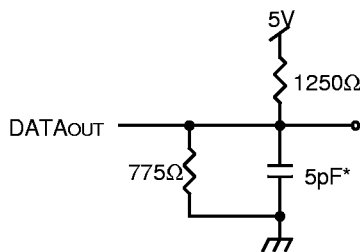

Figure 2. Output Load
1. Transition is measured $\pm 500\text{mV}$ from Low or High-impedance voltage with load (Figure 2).
1. Transition is measured $\pm 500\text{mV}$ from Low or High-impedance voltage from the Output Test Load (Figure 2).